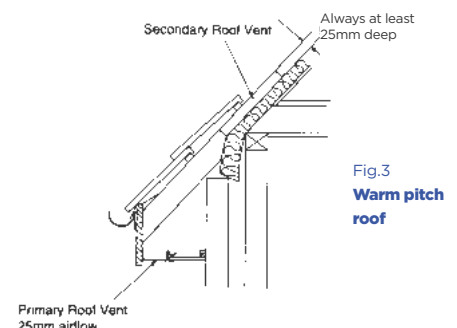

Fig.3
- With a pitched roof where the roof space contains living accommodation and part of the ceiling and insulation follow the same line as the rafters a free airflow is required which is equivalent to a continuous 25mm opening (25,000 mm² per metre run). See fig. 3
- With a pitched roof where the roof space contains living accommodation and part of the ceiling and insulation follow the same line as the rafters a ventilation channel at least 25mm deep must be maintained between the roof insulation and the underside of the roof covering. See fig. 3